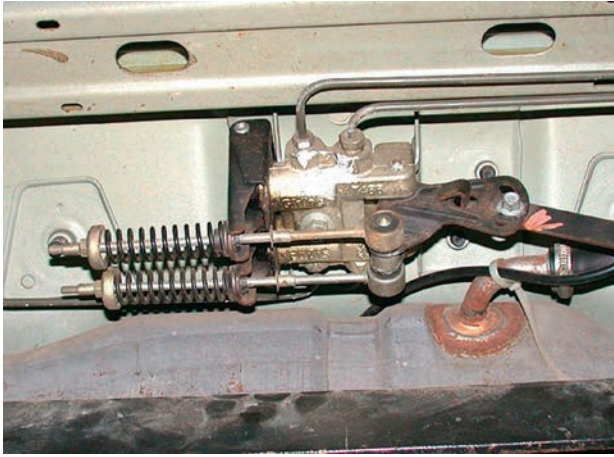

Figure 4.113 Load apportioning valve
- ▶ load-apportioning valve (Fig. 4.113)